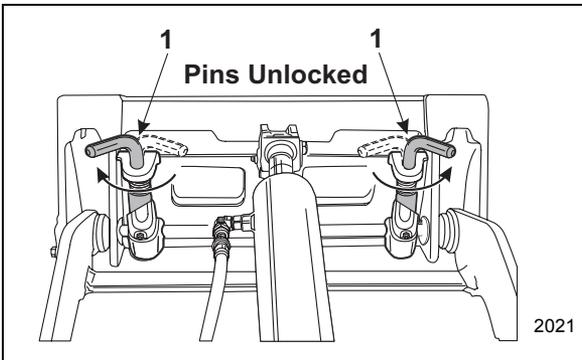

Figure 3–25 Attachment Locks in Unlocked Position
**NOTE:** Make sure that both of the attachment lock pins (Item 1, Figure 3–25 and Item 3, Figure 3–26) are in the “unlocked” position.